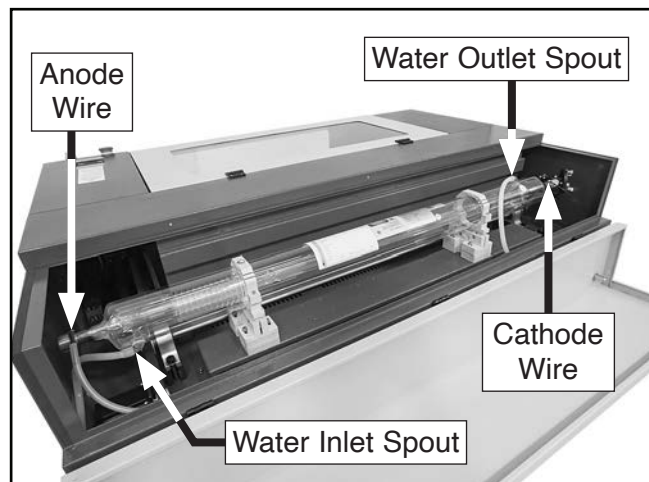

Figure 94. Laser tube component locations (G0873 shown).
7. Disconnect anode and cathode wires from laser tube (see **Figure 94**).
8. At laser tube INLET and OUTLET water spouts (see **Figure 94**), cut off water hose at end of spout, and with utility knife, carefully slit remaining hose until it can be peeled off.